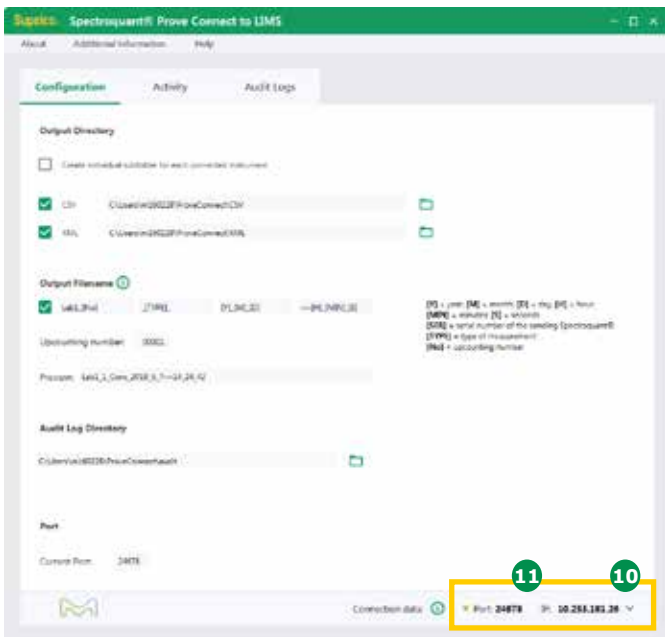

Figure 38 - Screenshot of Prove Connect for setup of network connection
8. Enter the IP address (10) (Figure 38) into the instrument.
11. Enter the Port 11 (Figure 38) into the instrument.